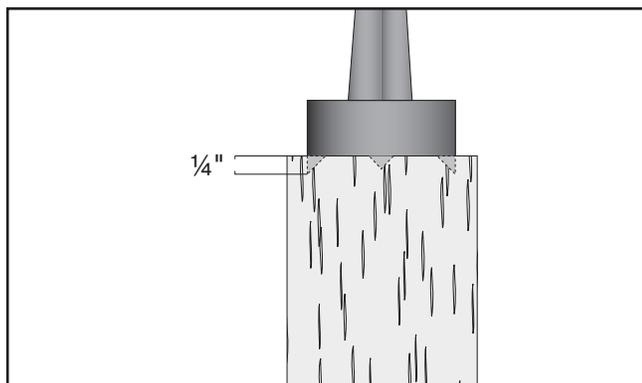

Figure 38. Spur center properly embedded.
6. Drive spur center into end center mark of workpiece with a wood mallet to embed it at least 1/4" into workpiece, as shown in **Figure 38**.